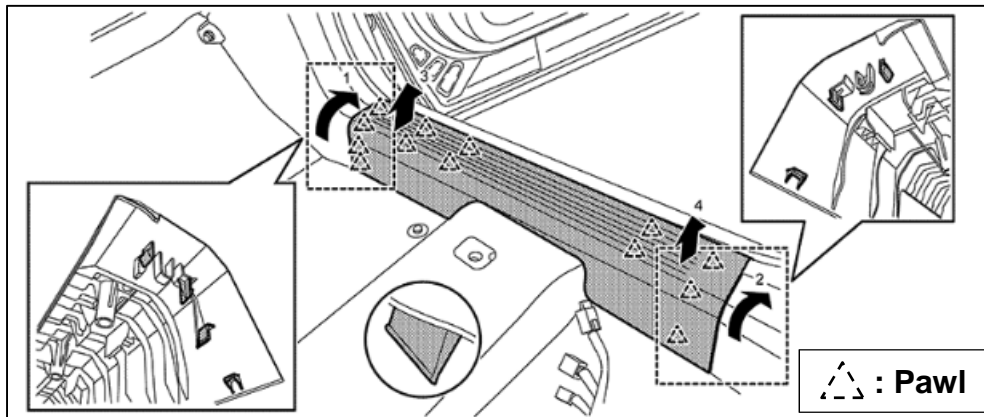

Figure 3
- Disengage the thirteen (13) front kicking plate fixing pawls, as indicated by the arrows shown in Figure 3.